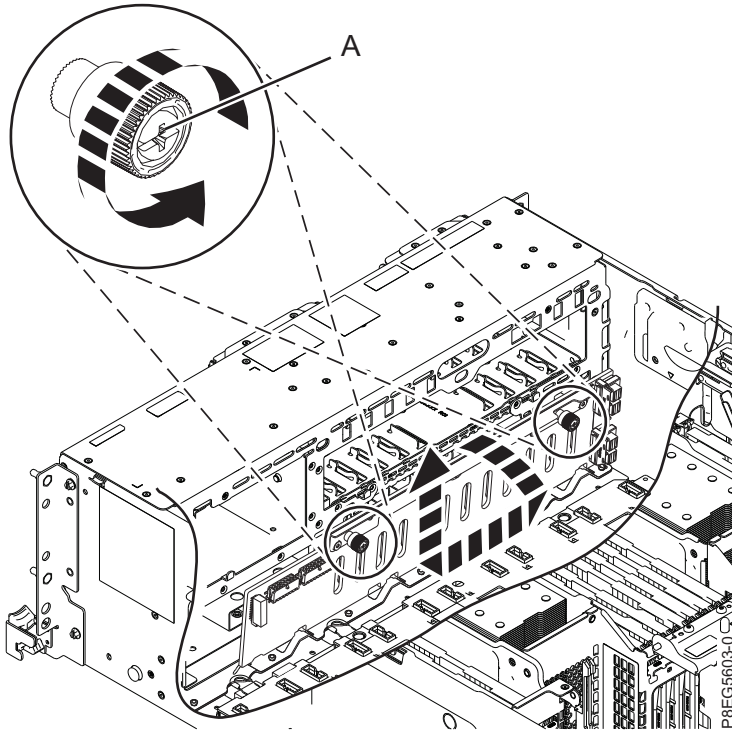

Figure 5. Removing the disk drive backplane
7. Carefully unscrew the disk drive backplane's captive thumbscrews (**A**) until fully loose as shown in Figure 5.